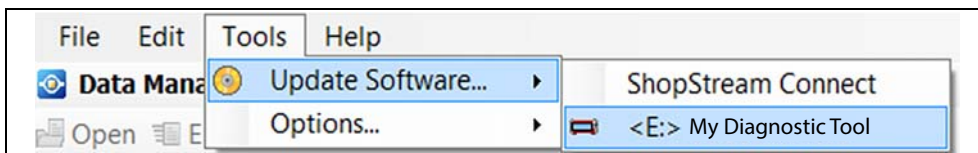

Figure 13-12
1. Select **Tools > Update Software >** (diagnostic tool type - e.g. **ETHOS Edge**, **MODIS Edge**, **SOLUS Edge**, etc.) from the Menu bar (Figure 13-12).